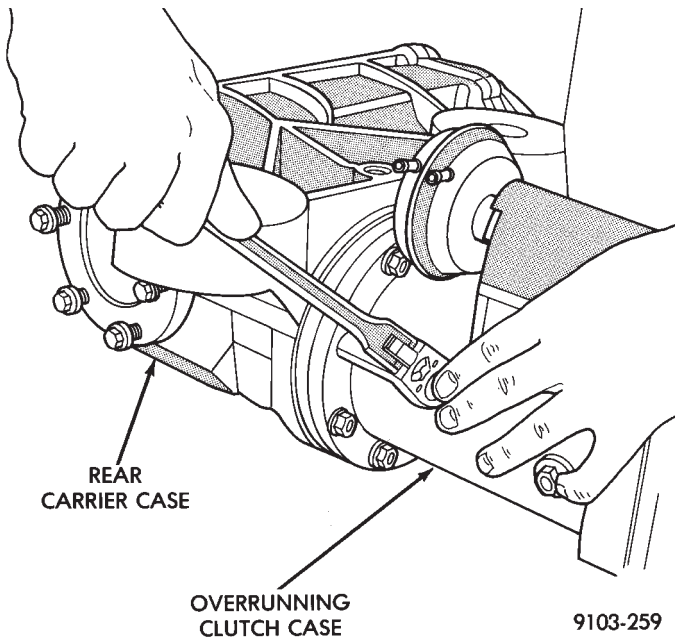

Fig. 1 Overrunning Clutch Case to Rear Carrier Bolts
The rear drive line module must be removed to service these seals. The drive pinion seal is located in the front carrier cover, behind the overrunning clutch rear seal (Fig. 1). The overrunning clutch seal must be removed to gain access to the input pinion seal. Do not reuse overrunning clutch seal.
- (1) Remove rear drive line module from vehicle.
- (2) Remove overrunning clutch case to rear carrier bolts (Fig. 1).